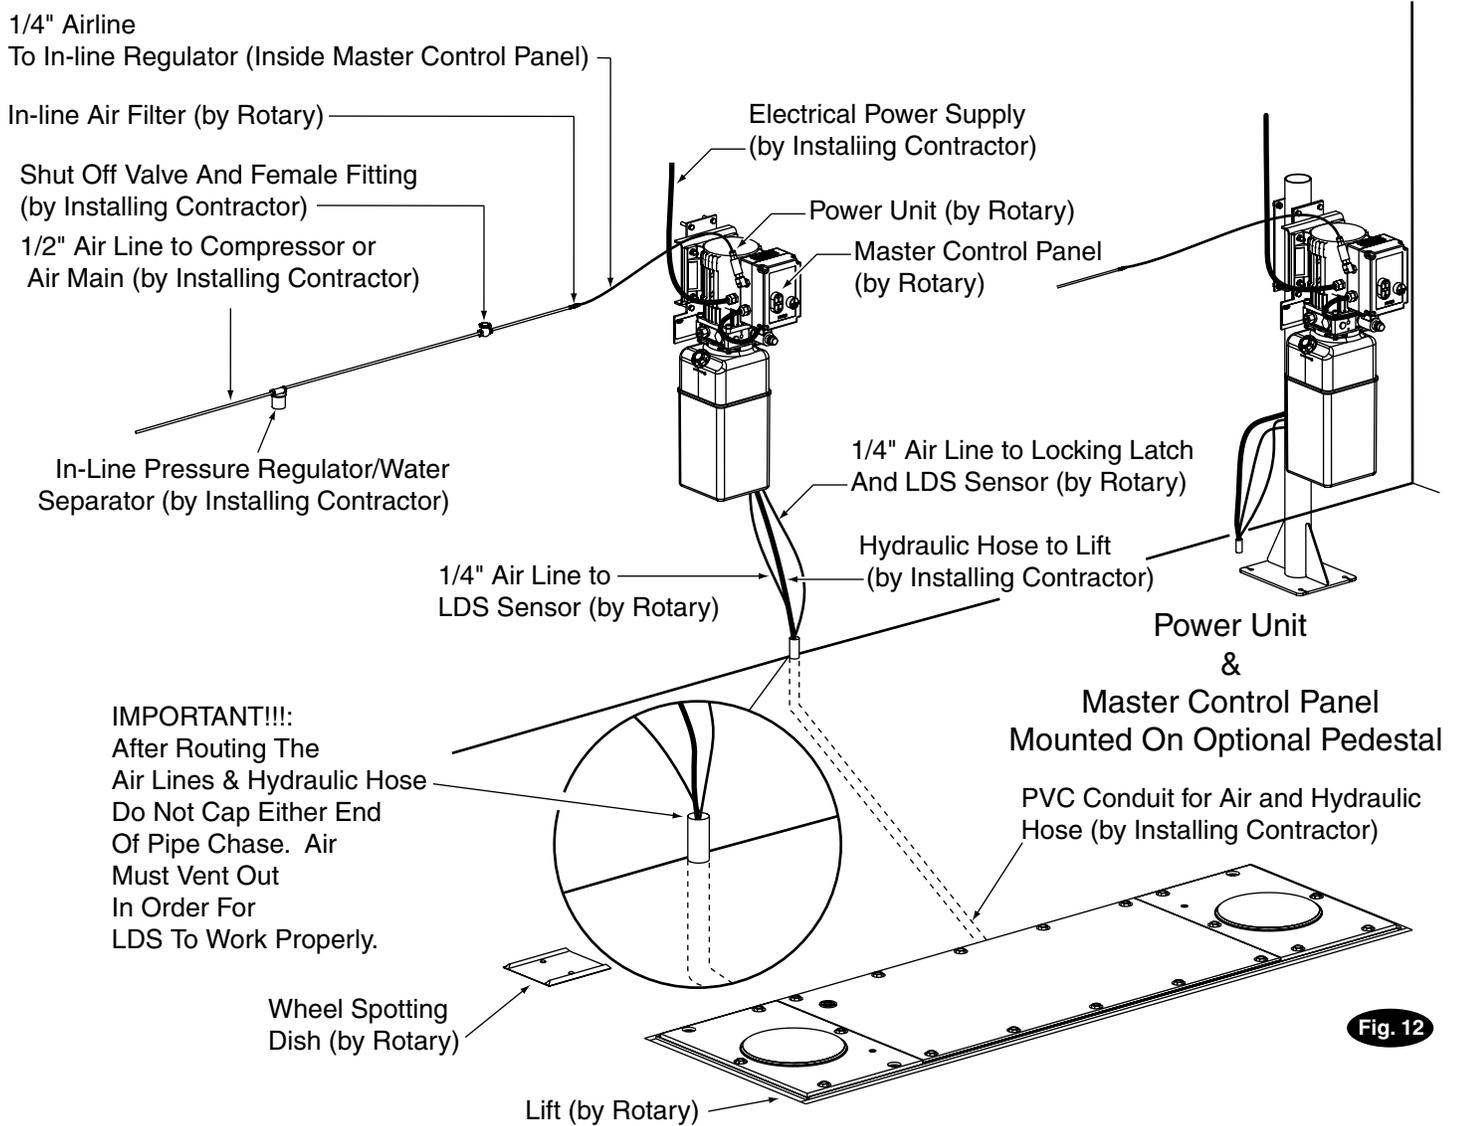

Fig. 12
1. Push the hose through the 2" PVC pipe chase from power unit to lift unit, Fig 12 & Fig. 14.
1. Install in-line air filter and female 1/4" pipe to 1/4" tube fitting, Fig. 12.